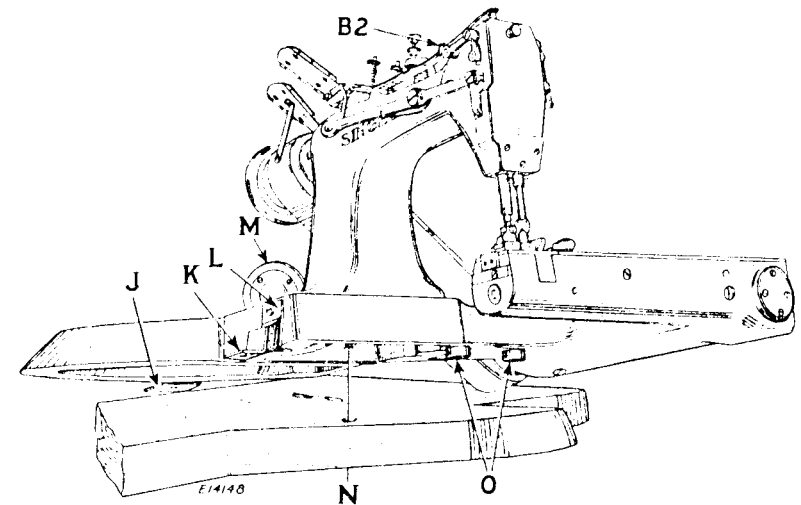
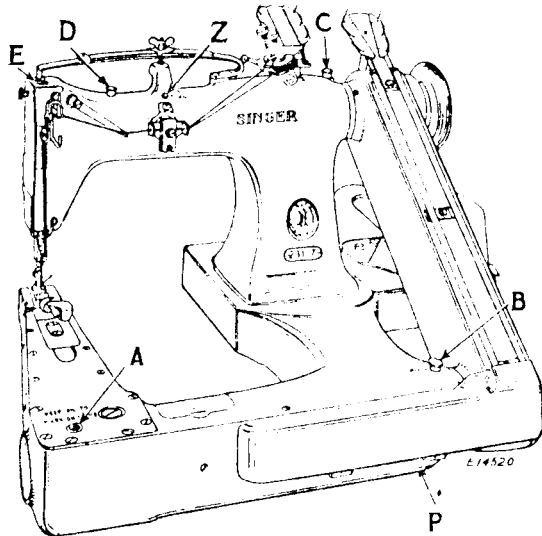
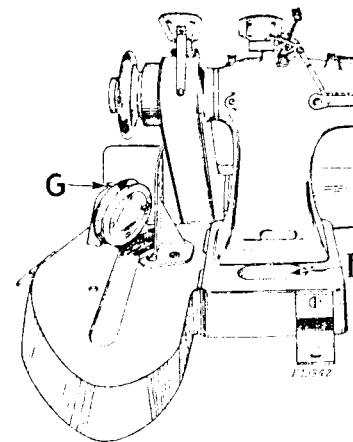
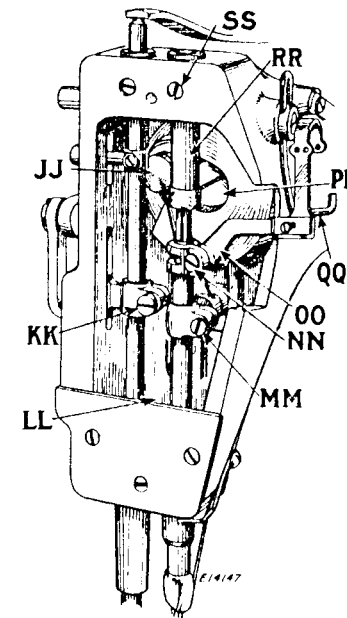

Fig. 2
Fig. 3
Fig. 5
Fig. 17
Unpack and thoroughly clean the machine. Attach the counterweight to the machine bed as shown in Fig. 5. Insert the two rubber cushions (O, Fig.2) into the holes in the base of the machine. Place the machine in position with the edge of the machine base in line with the edge of the table as shown below, and see that the hole (N) for the presser bar lifter chain is in line with the hole in the table plank.
The two vibration dampeners (J and K, Fig.2) are placed at the rear of the machine base and at the right of the counterweight as shown in Fig. 2. Attach the straight straps (L) to the machine base and counterweight, then locate and drill holes in the table and fasten the angle straps (K) of the dampeners to the table with 1/4 X 2 1/4 inch bolts.
When the machine is operated on a SINGER\* Electric Transmitter Power Table or a Low Shaft Power Table, the idler pulley (M, Fig.2) is attached to the machine counterweight as shown in Fig.5.
1. After the machine has been set up so that its cylinder arm cover is level, lift out the gauge (A, Fig. 3) and fill the arm reservoir to the level of the mark on the gauge. Run the machine a few minutes, then wipe off the gauge and recheck the oil level. THIS RESERVOIR SHOULD BE FILLED ABOUT TWICE A WEEK OR OFTEN ENOUGH TO KEEP THE OIL LEVEL UP TO THE MARK ON THE GAUGE.
3. Place about 5 drops of oil in each of the three cups (B, C and D, Fig. 3) which lubricate the ball bearings, and in the cup (G, Fig. 5) on the idler pulley underneath the balance wheel. DO THIS ABOUT ONCE A WEEK.
4. Place a drop of oil once a day in the oil hole (Z, Fig. 3) directly above the nipper.
NOTICE: When the machine is first set up, or after it has stood idle for some time, put a few drops of oil in the top of the needle bar guide pin (E, Fig. 3) before starting the machine.
OIL DRAIN: Surplus oil from the bearings drains into the wells at the rear of the base (H, Fig. 5) and in the head of the arm (LL, Fig. 17). These wells may be kept empty by soaking out the oil with waste or similar material.
Oil which accumulates in the front of the bed under the rotary shaft should be drained out occasionally by removing the screw plug at (P, Fig. 3) in the bottom of the bed, to prevent oil from getting on the looper thread take-up.
The needle bar may be raised or lowered after loosening the clamping screw (MM, Fig. 17).
The needle thread take-up (OO, Fig. 17) is usually set so that the top of its clamp is about 1/16 inch below the top of the needle bar.
The auxiliary thread take-up (QQ, Fig. 17) at the front of the machine should be set high enough so that it takes up the slack of the needle threads after the loopers have shed the needle loops and as the needle bar finishes its downward stroke and the stitch is set.
(See Fig. 17)
Remove face plate, presser foot and needles. Remove the balance wheel, belt guard cover and belt, as instructed on page 17. Remove the upper belt pulley. Loosen the presser bar lifter bracket clamp screw (KK, Fig. 17) and withdraw the presser bar from the top. Loosen clamp screws (MM and NN), remove the thread take-up and allow the needle bar to drop downward. Loosen set screw (SS) and tap the needle bar guide pin (RR) out through the top. Then tap the shaft out through the needle bar end, with the crank, oil retainer ring and ball bearing.
TO REMOVE ONLY THE ARM SHAFT CRANK, lower the needle bar and remove the presser bar as instructed above, take out the large cap screw (PP, Fig. 17) in the crank, and loosen the two large set screws in its perimeter which are accessible through the hole in the rear of the casting. The smaller screw which is also visible through the hole in the casting should not be molested. The crank may then be removed from the shaft.